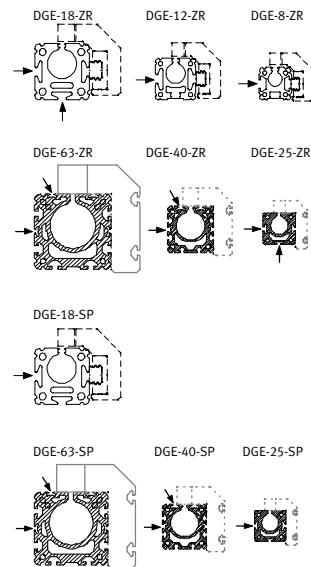

Fig. 37
- Use the grooves as shown in Fig. 37.